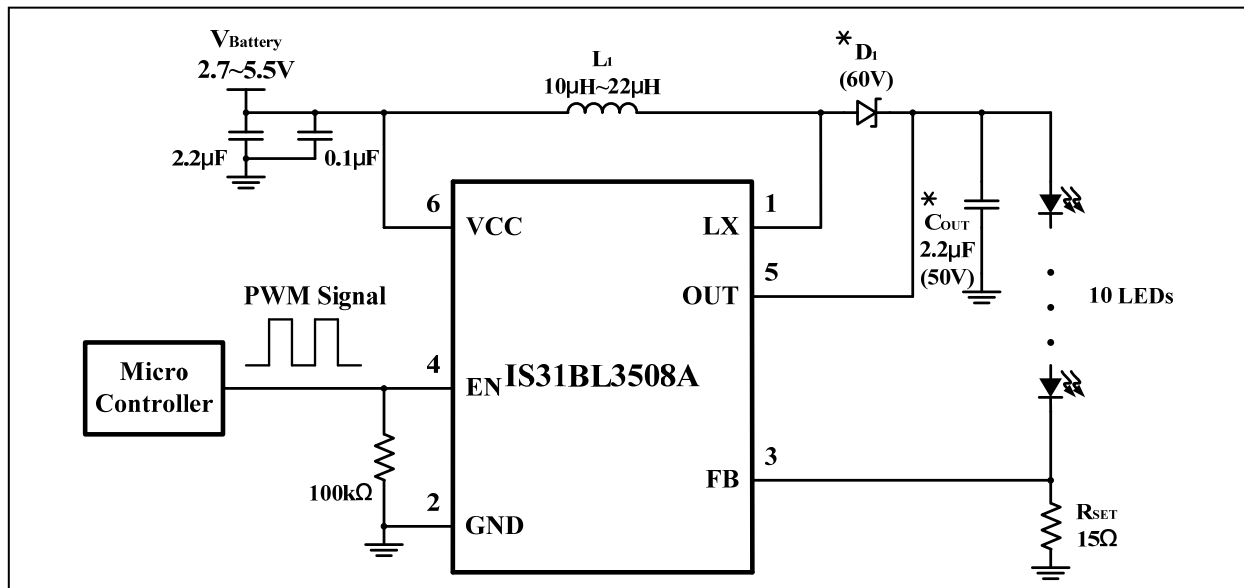

Figure 1 Constant Current White LED Driver Using PWM At The EN Pin To Control Intensity
The choice of the inductor value will affect the performance of the device. Large value inductors will reduce the current ripple in the inductor, thus reducing output voltage ripple. However large value inductors of the same current rating, typically also have larger DC resistance, thus reducing the system efficiency. For example in Figure 1, the loads are 10 WLEDs and output current is 20mA. The maximum input current can reach 600mA. For this application a 10μH 700mA inductor is sufficient.
When the IS31BL3508A is used for LED driving applications (Figure 1), the LED current flows through the external feedback resistor R_{SET} to regulate the LED current. The internal feedback regulation point is 0.3V. The maximum LED current may be calculated by the following Equation (1).